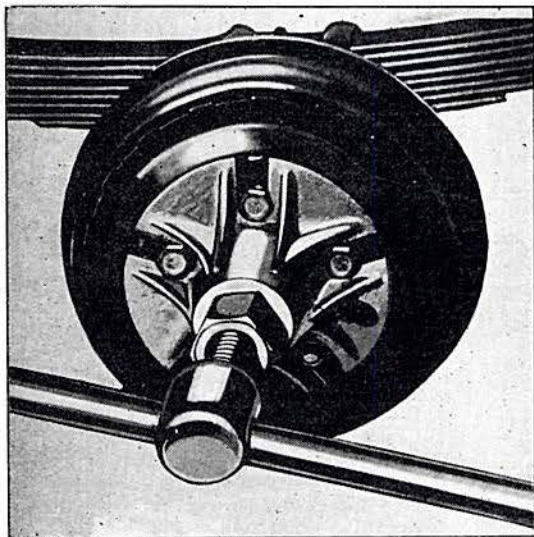

FIG. 236—WHEEL HUB PULLER
- Use a puller (Tool C-319, Fig. 236), to remove the wheel hub.